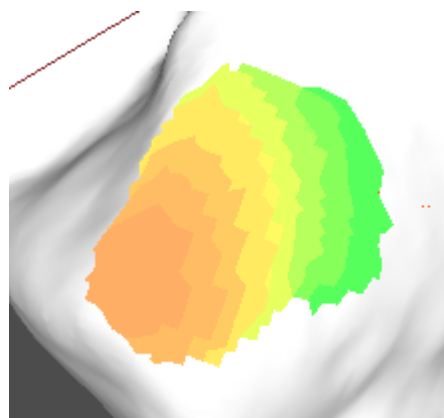

Figure 17.1.: A gradient of the collision groups of the last 24 steps with red being oldest, green newest step
- **Gradient color:** The color for the oldest and the newest collision groups can be chosen. The program will interpolate a color gradient for the groups in between (see figure 17.1, page 61).